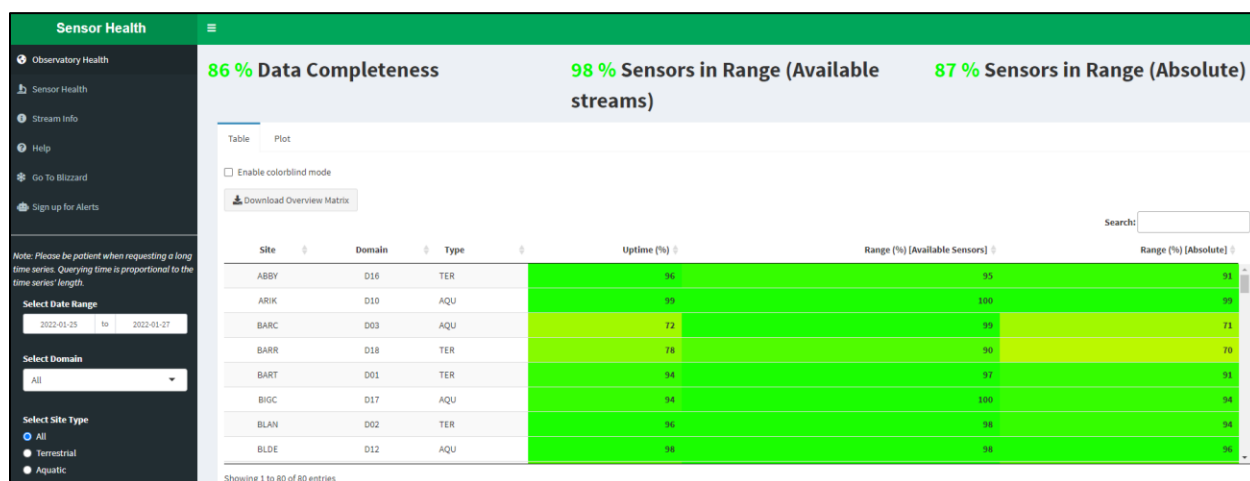

Figure 4. NEON Sensor Health Application.
1. The NEON Sensor Health application (**Figure 4**) and email reports allow for continuous and automated monitoring of the ECTE and ECSE systems, as well as other IS sensors. Use this application to monitor sensor uptimes and ranges. Click the help icon in the app menu on the left for assistance in using and interpreting data.
*Note: Use the “Alert Management App” to sign up and configure email reports. See “Sign up for Alerts” in the left hand column in **Figure 4**.*